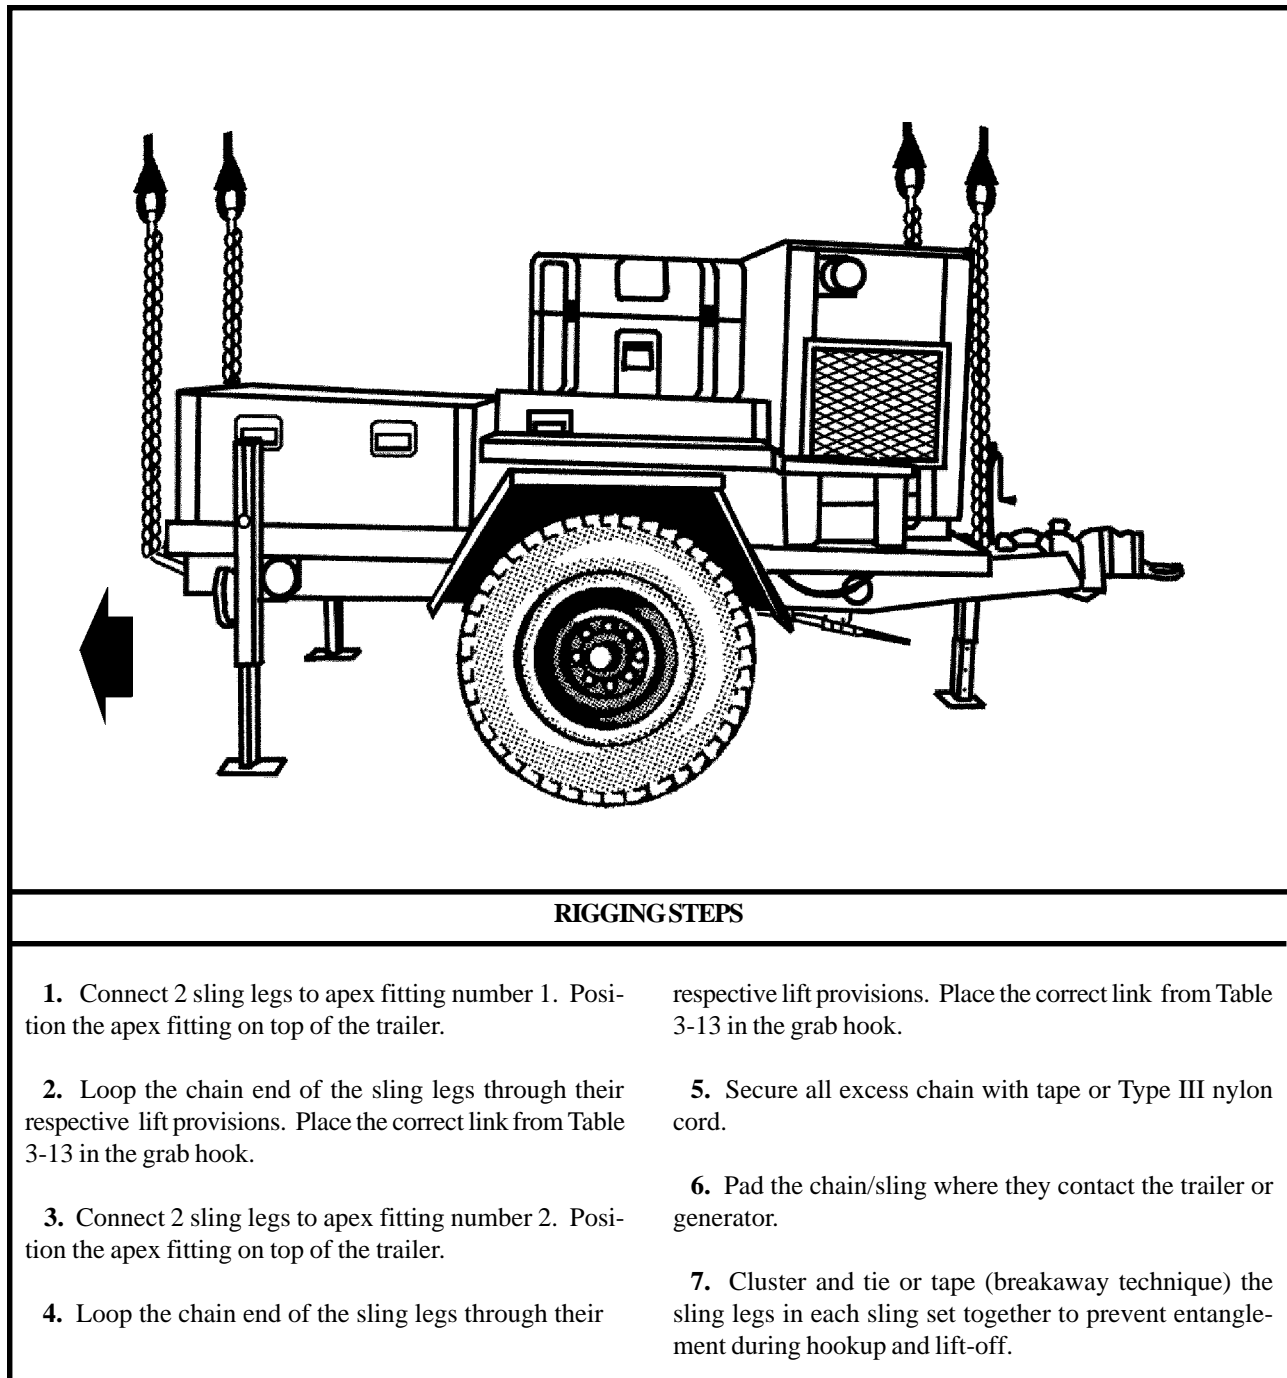

Figure 3-13. Special Operations Media Systems on COPS Trailer
(2) **Rigging.** Rig the load according to the steps in Figure 3-13.
(4) **Derigging.** Derigging is the reverse of the preparation and rigging procedures in steps d (1) and d (2).